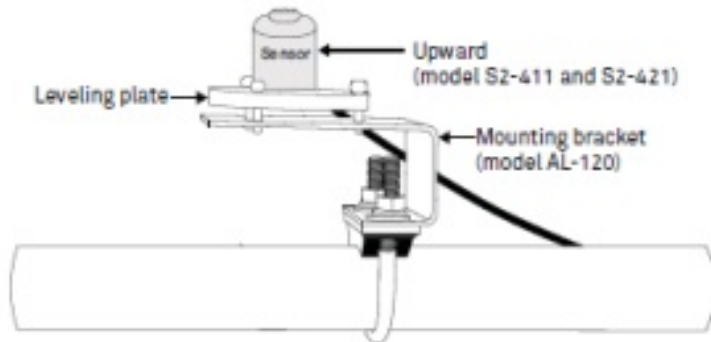

Figure 2 Upward-facing sensor installed on mounting post
3. Mount the sensor to the leveling plate with the provided nylon screw (Figure 2).
4. Attach the leveling plate to the mounting bracket using the three machine screws included (Figure 2).
5. Attach the mounting bracket either to a horizontal arm (Figure 2) or vertical post using the included U- bolt.